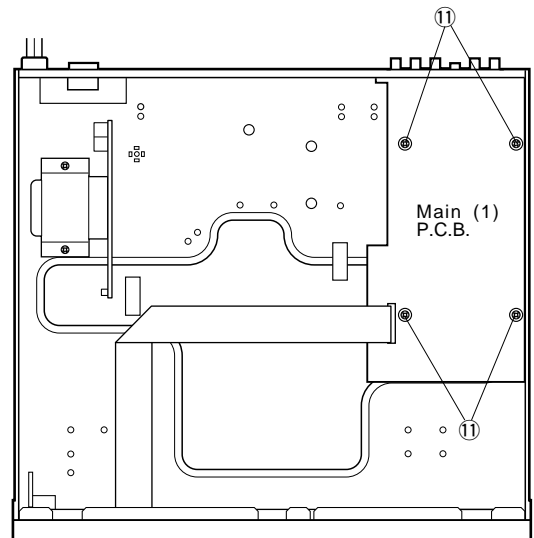

Fig. 6
- b. Remove 4 screws ( ⑪ ) in Fig. 6.
- d. Pull out the Main (1) P.C.B.